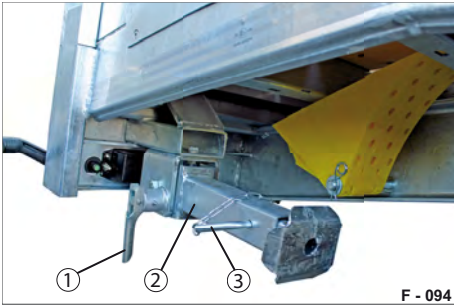

Fig. 63 Drive position
- Check before driving that both folding supports are in the drive position (see Fig. 63).